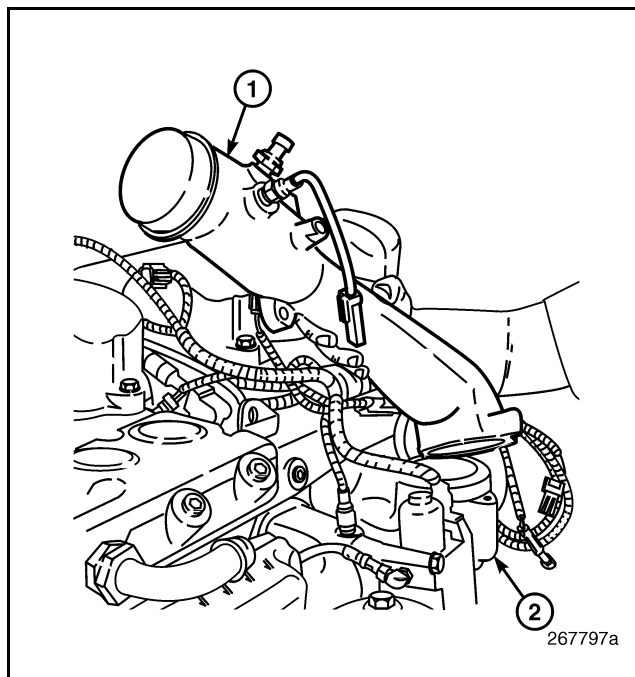

Figure 428 — EGR Mixer Tube Installation
- Place the mixer tube in position on the inlet manifold (Figure 428) and install the two mounting capscrews. Tighten the capscrews to specification, 40 lb-ft (55 N•m).